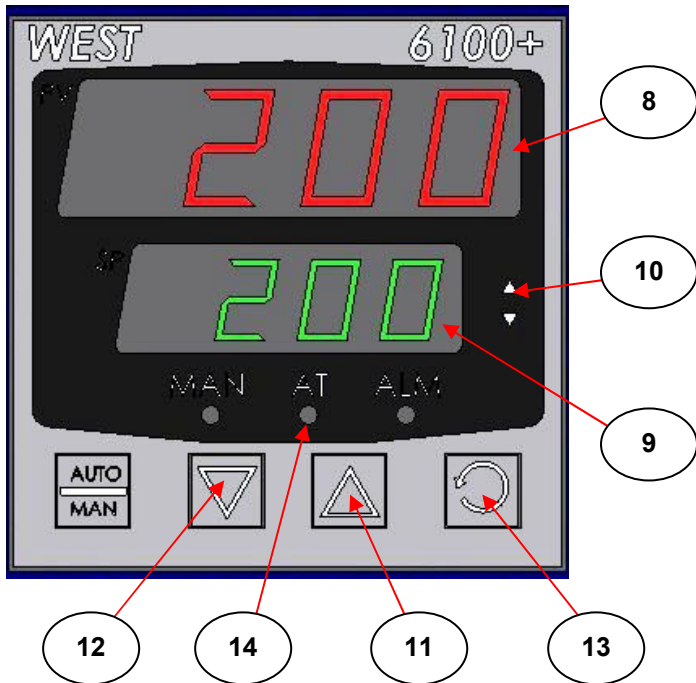

Fig 2. WEST 6100+ Temperature Controller Digital Display
- 4.5 When power is supplied to the HTHP Cell Controller and the HTHP Cell is also connected, the controller undergoes a self-test routine. The routine follows the procedure below as indicated on the digital displays of the two WEST 6100+ temperature controllers (see Fig 2.).